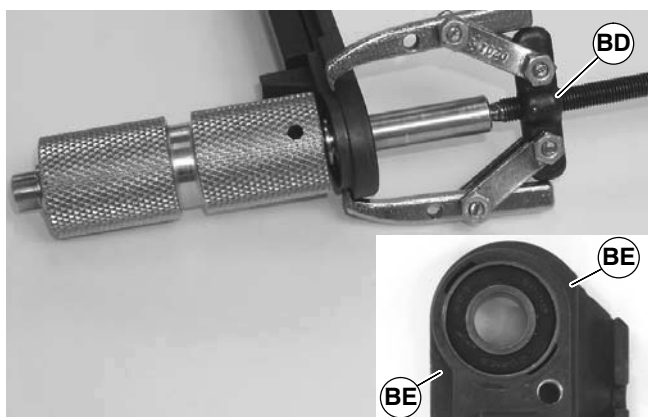

Figure 38
5. With bearing removal tool, (BD of Figure 38), part number 807-1078, remove head plate from drive shaft. Connect tool jaws at indicated points (BE).